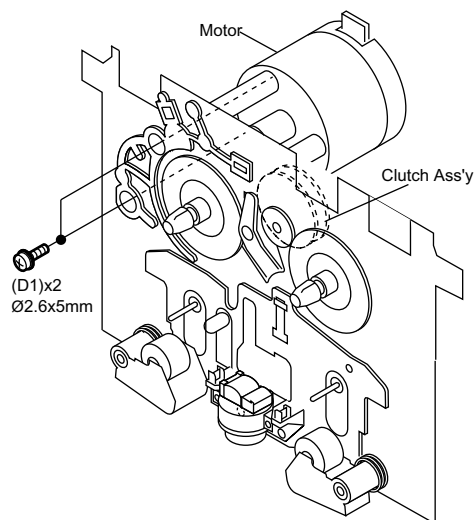

Figure 4
1.4. How to remove the Motor (See Fig. 4)